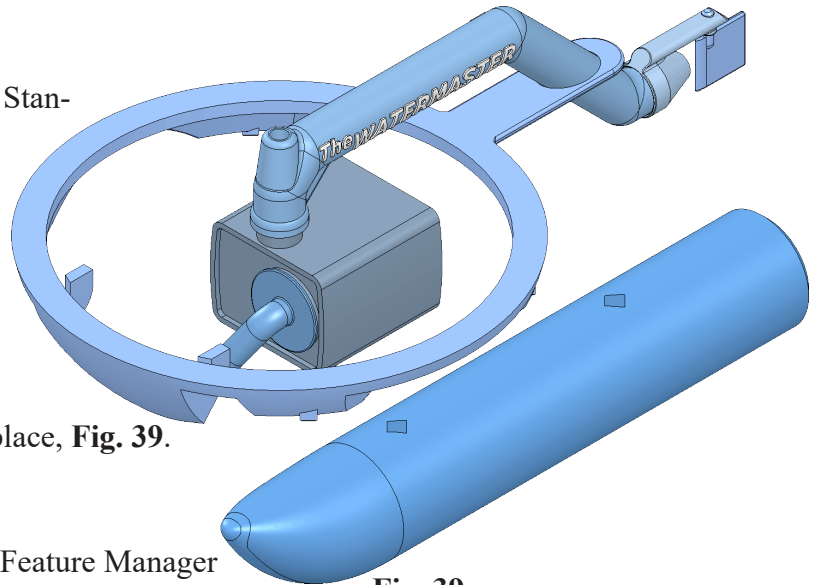

Fig. 39
Step 3. Select **PONTOON** file and place, **Fig. 39**.